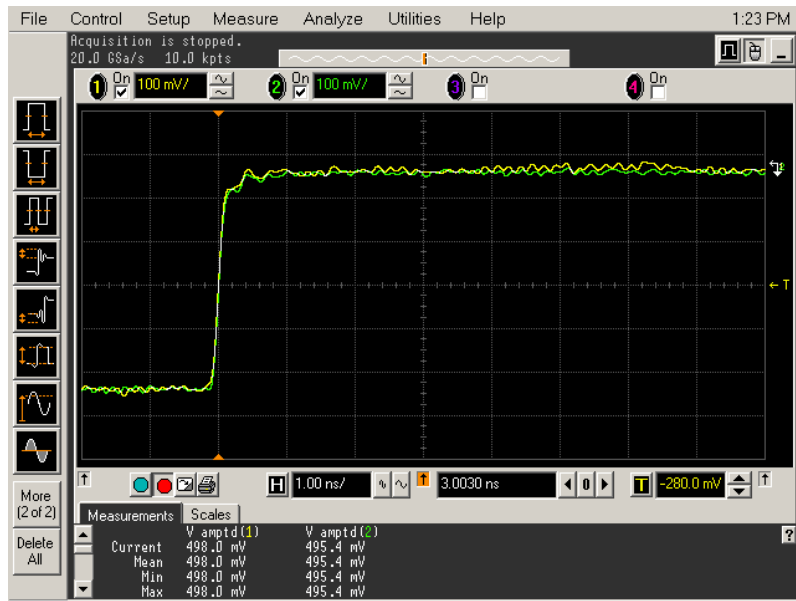

Figure 53 Overlapping Waveforms
- 23** In the Acquisition Setup dialog box enable averaging. When you close the dialog box, you should see waveforms similar to that in **Figure 53** on page 86.